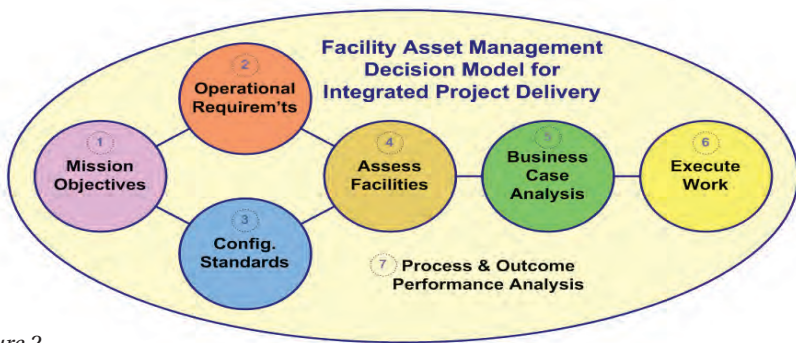

Figure 2.
The emerging framework has seven specific elements (Figure 2). The Coast Guard legal authorities (business lines) are translated into mission objectives (1), which are then used as planning factors for the provision of logistical systems including facility assets. This is known as integrated project delivery (IDP) in the industry. In the Coast Guard, our vision of IDP extends to the complete sphere of time, space and scope of the organization. From this, operational requirements (2) are documented and are used to establish logistical requirements and, consequently shore facility configuration standards (3). Facility investment decision-making